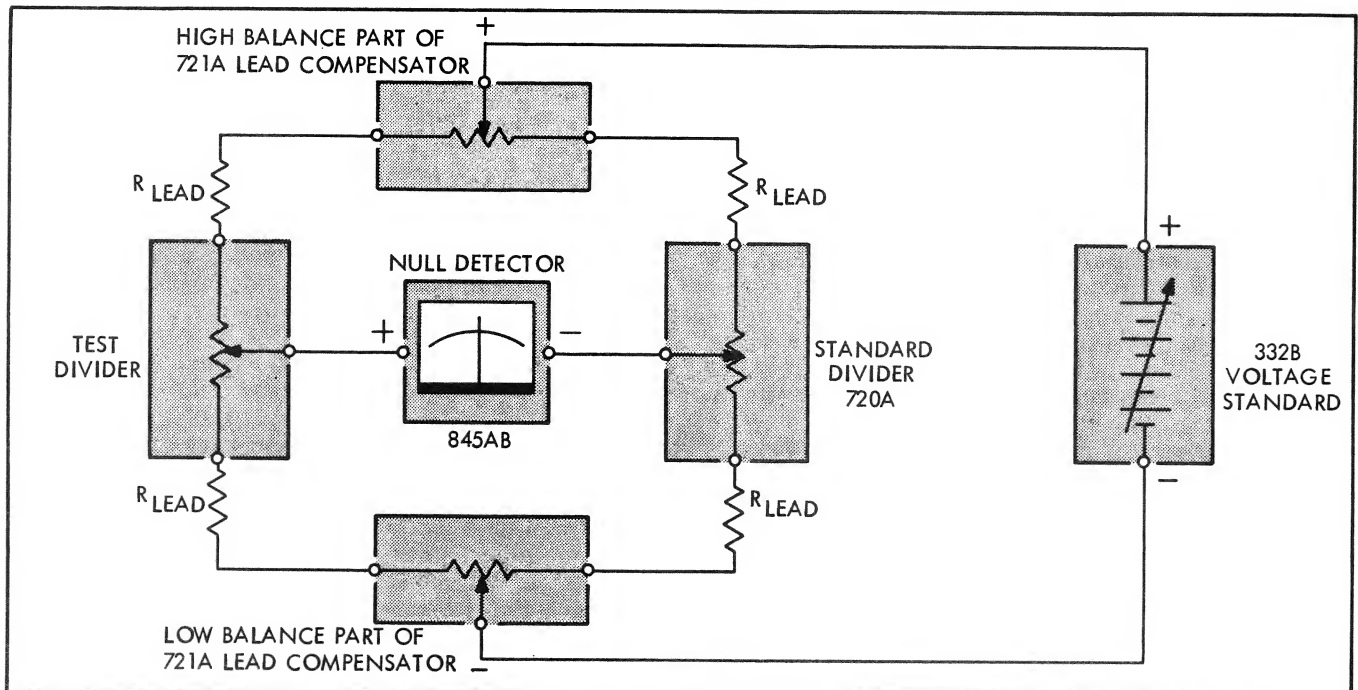

Figure 2-8. SIMPLIFIED SCHEMATIC DIAGRAM OF VOLTAGE DIVIDER CALIBRATION
*Figure 2-8 is a schematic diagram of the test setup obtained by interconnecting the equipment as shown in Figure 2-7.*